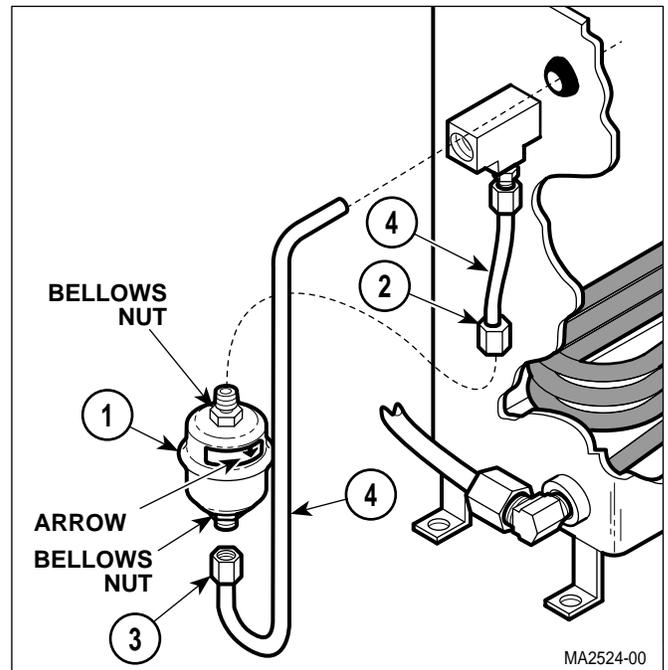

Figure 4-15. Bellows Assembly Removal / Installation
- (2) Using a wrench on bellows nuts to hold bellows assembly (1, Figure 4-15) stationary, loosen and disconnect compression nuts (2 and 3).
- (3) Remove bellows assembly (1) from tubes (4).